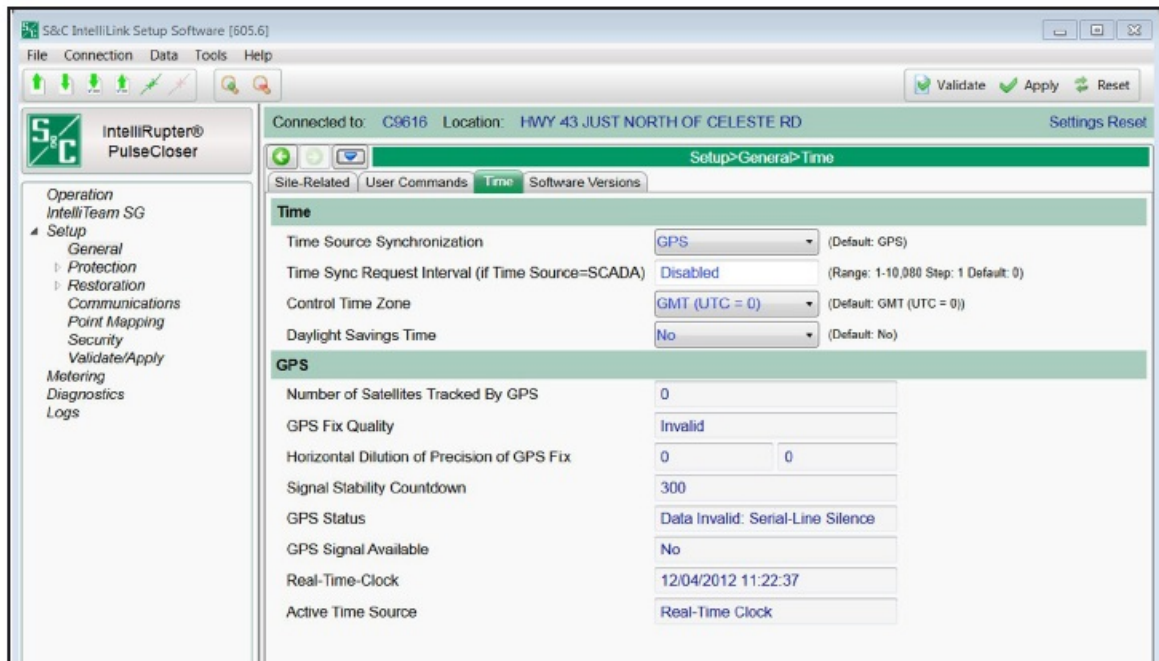

Figure 1. The Setup>General>Time screen.
- **Note:** The Global Positioning System requires up to 5 minutes to “lock on” and provide timing signals. If desired, the protection and control module clock can be set manually on the IntelliLink Setup Software Setup>General>Time screen. See Figure 1. Follow the instructions on the screen.